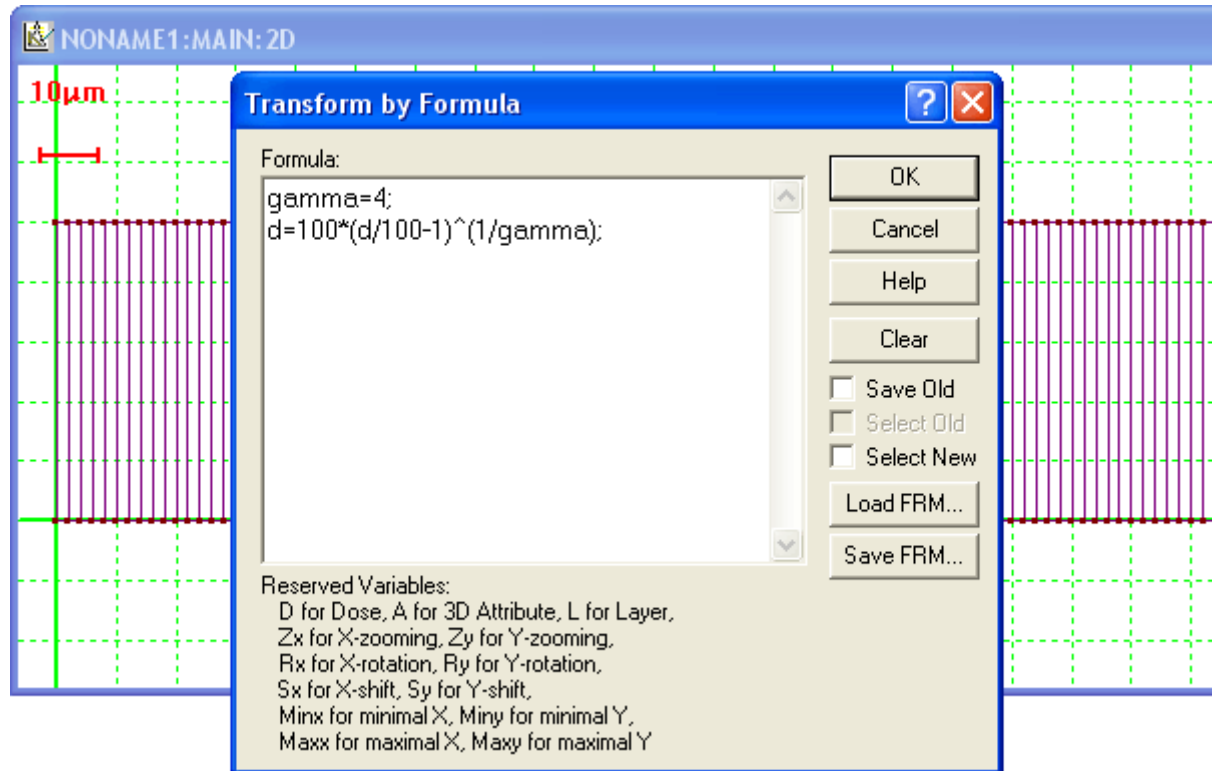

Fig. 4. The transformation formula in **Transform by Formula** dialogue. Selected rectangular elements are seen in the background.
- Enter the following formula in dialogue window: $\gamma = 4; d = 100 * (d/100-1)^{(1/\gamma)}$;, where the supposed value for contrast γ equals to 4 (see Fig. 4);